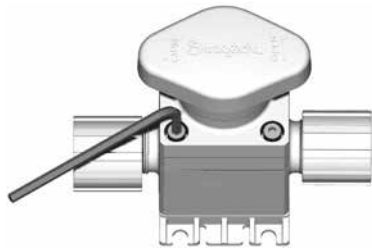

Fig. 4
3. Loosen the socket head cap screws in a crisscross pattern using a hex wrench as shown in Fig. 4 and 5.